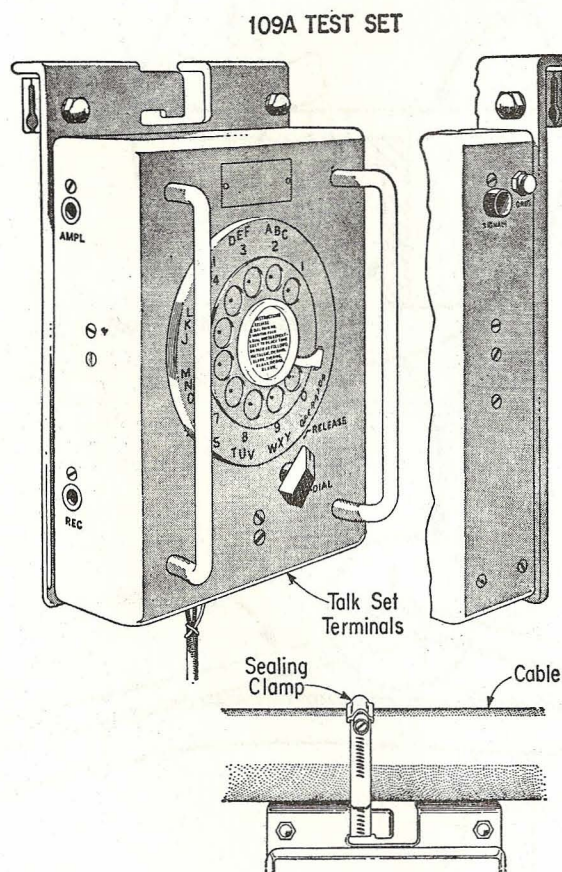

Fig. 3
3.01 The 109A Test Set is illustrated in Fig. 3.